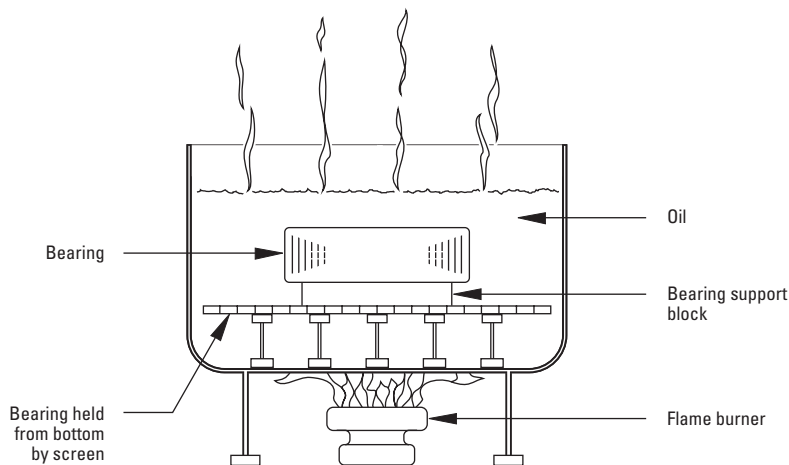

Fig. E-5. Heat expansion method.
- Accomplished by heating the bearing in a tank of oil that has a high flash point (see fig. E-5).
- The oil bath is shown in fig. E-5. The bearing should not be in direct contact with the heat source.